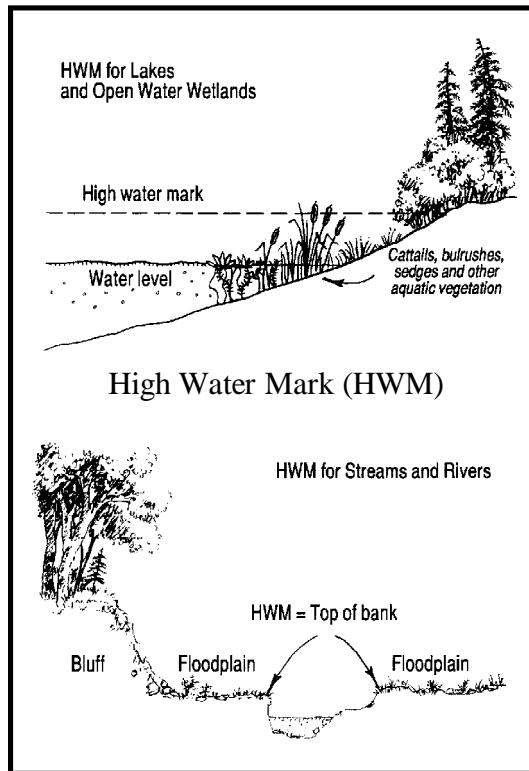

Figure ROAD-3
**U** Avoid locating roads below the high water mark of streams, lakes, wetlands and seasonal ponds whenever possible. See Figure ROAD-3.